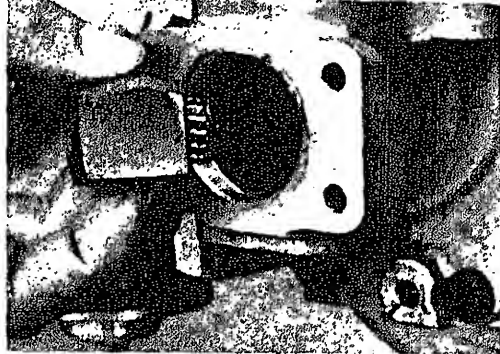

Fig. 31. After having removed the screw cap 9210 0284 from the crankcase, the dice and needle bearing can be dismantled.
22 Dice 9210 0154-80 with needle bearing 515 0429 ..... Fig. 31
*Because the dice has been removed earlier, see Fig. 31, the turning fork 9210 0126 can jam the crankcase half. Therefore check that the turning fork is in such a position that it is possible to remove the crankcase half.*